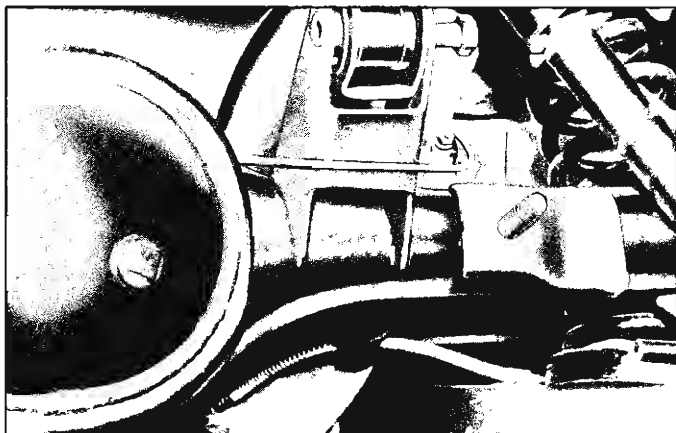

Fig. 18—Installing Upper Control Arm to Axle Housing Bracket
5. Hold the alignment of the upper control arm and pivot with a pry bar. While doing so, remove the punch, if installed, and install the pivot bolt through upper control arm and bushing. Install lockwasher and nut but do not tighten (fig. 18).